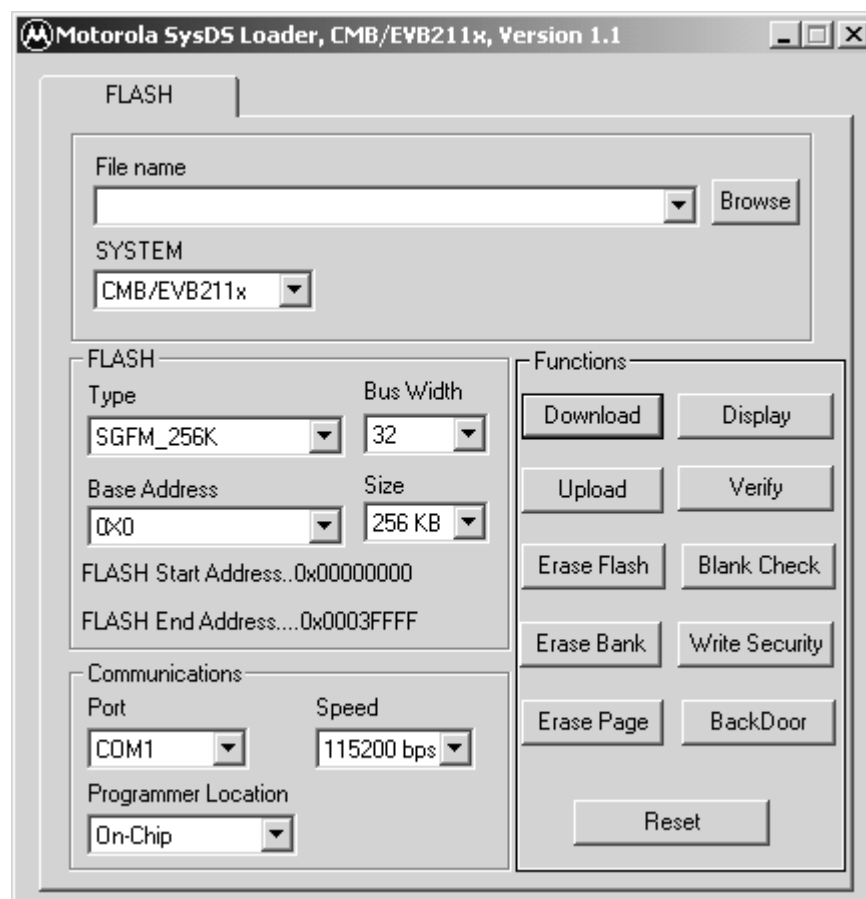

Figure 3-1 On Chip FLASH Version SysDS Loader Main Screen
- b. Double-click the `loader.exe` file. SysDS Loader starts and the main screen appears as shown in Figure 3-1.